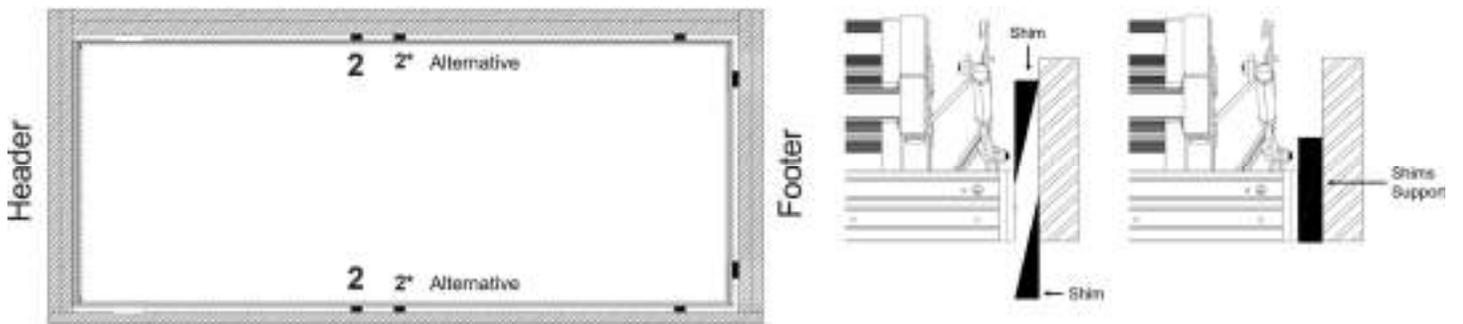
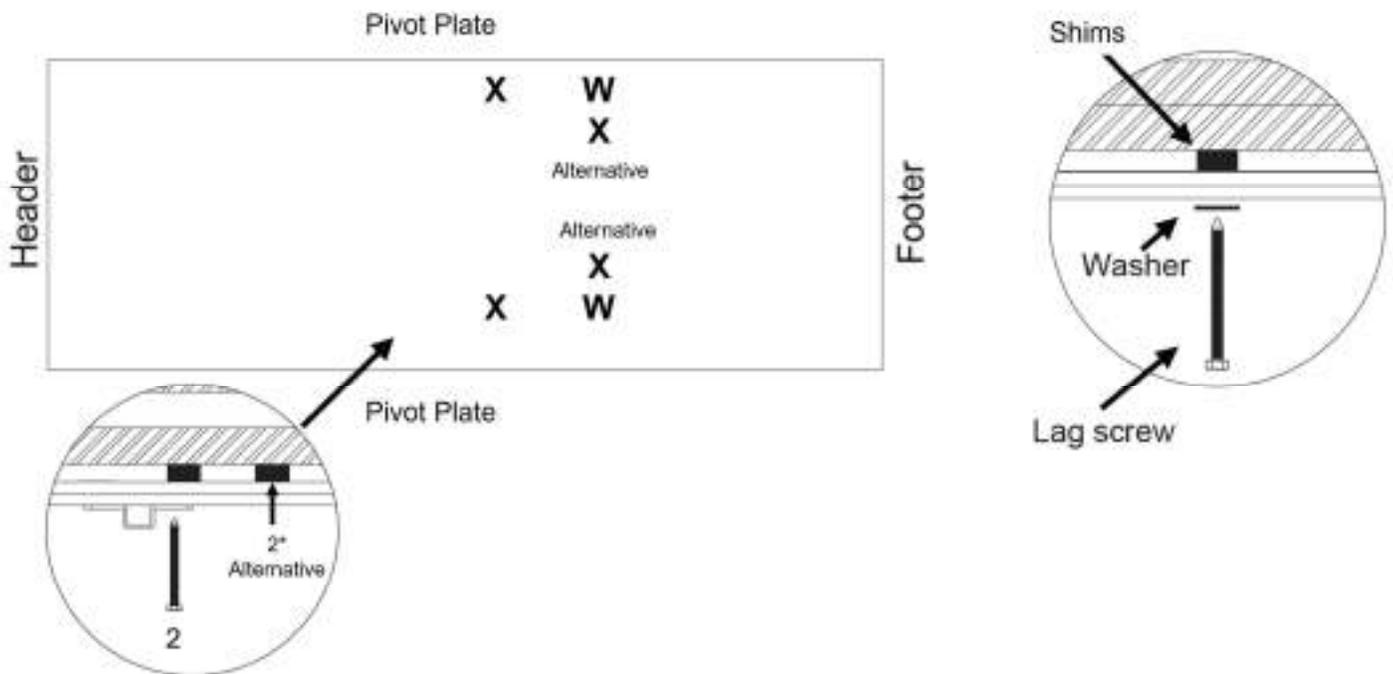

FIGURE 24 : SHIMMING SIDE FRAME
FIGURE 25 : SECURING SIDE FRAME RAILS
U. Installer #1 and #2: Position shims from above and below at the 2 pre-drilled pivot plate holes on each frame side rail at position 2 (See **Figure 24**). The shims should provide uniform support so there is no twisting or bowing of the aluminum frame. Drill 5/32" diameter by 3" deep pilot holes into the ceiling joists through the bushings at position 2. Install the 2 lag screws to secure the attic ladder (see **Figure 25**).